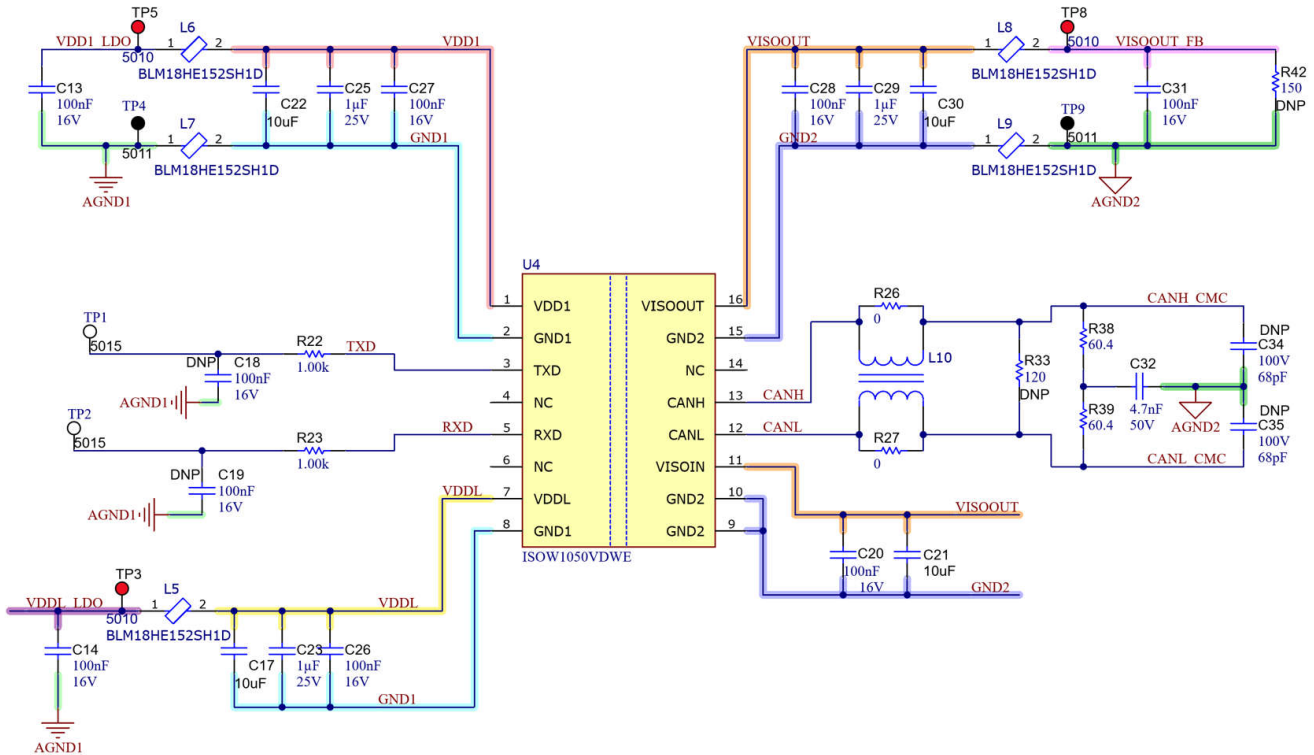
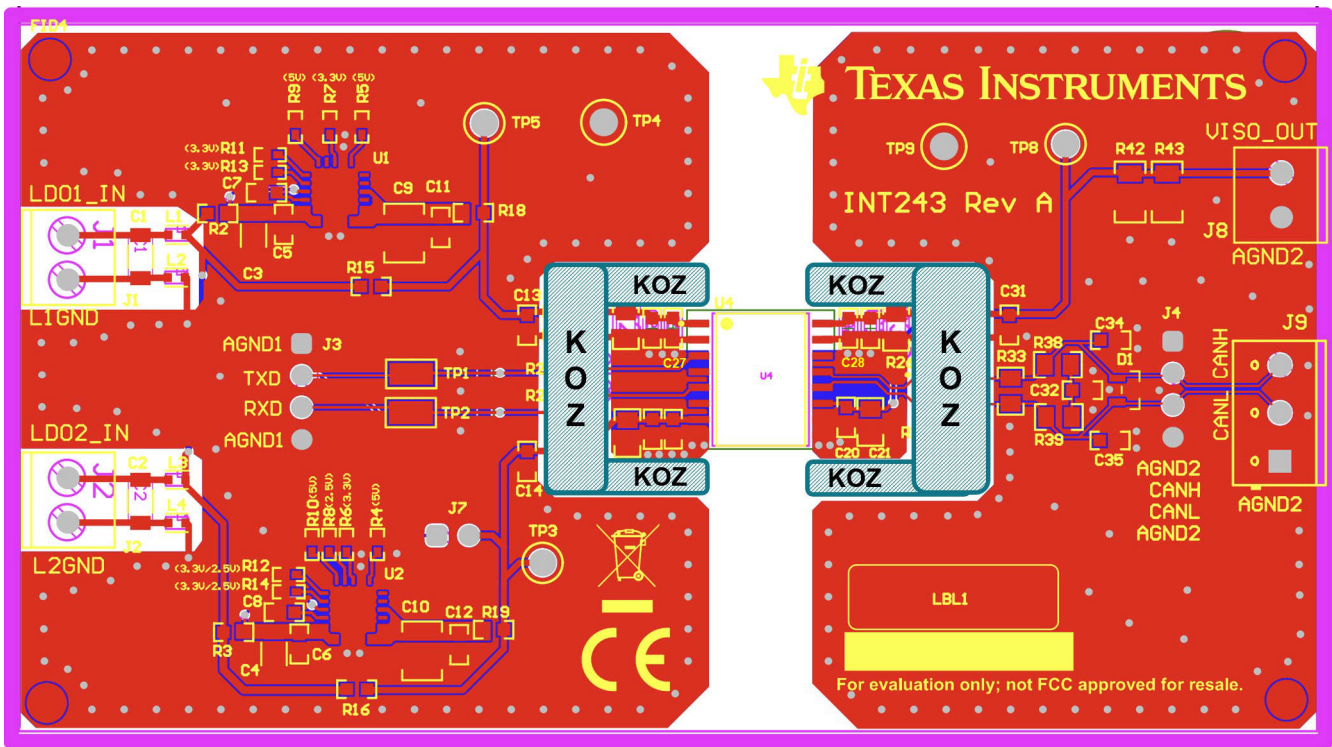

Figure 2-1. Schematic Reference From the ISOW1050DWEEVM Evaluation Module for the Mentioned Techniques
Figure 2-2. Layout Reference From the ISOW1050DWEEVM Board Showcasing KOZ
Refer to capacitance banks [(C27, C25, C22) and (C28, C29, C30)] placement in Figure 2-1. The order is crucial because each mm of PCB trace between capacitor and IC adds $\approx 1\text{nH}$ of series inductance. By placing large 10 μF capacitors closest to the IC and small 100nF capacitors farthest from the IC, this inverts the impedance profile and results in poor HF noise shunting. For applications targeting lower supply ripple, increasing the bulk capacitor from the standard 10 μF to 22 μF or 47 μF helps to improve supply ripple.
Without filtering the switching noise, the noise directly propagates into the VDD supply planes and the PCB ground planes. This action results in conducted emissions on the input terminal, and noise in the ground planes leads to radiated emissions. A ferrite bead π -filter blocks all noise above the cutoff frequency, preventing the fundamental frequency and all harmonic frequencies from reaching the main board copper planes. Use of a ferrite bead (FB) (for example, BLM18HE152SH1D, see references) is vital in minimizing radiated emissions due to common-mode current loops. FBs can be inserted between the DUT DC-DC converter and the rest of the system, as placed in Figure 2-1, thereby breaking the path of larger common-mode current loops and limiting formation of only shorter current loops. The cutoff frequency is calculated as:
Two ferrite beads per rail (one on the supply line, one on the return or GND) helps in balanced differential filtering, as shown in Figure 2-1. (L6, L7 on VDD and L8, L9 on VISO).
Ferrite beads attenuate and block formation of large common-mode current loops. While FBs separate out the device from the rest of the PCB, all the power and ground planes before and after FBs must stay separated all through the PCB. This prevents alternate common-mode current loops from forming, which are created through capacitive coupling between the planes, bypassing FBs. Even 0.1pF of parasitic capacitance between copper pours on opposite sides defeats the purpose of a ferrite bead. Figure 2-2 highlights the keep-out zones that separate the inner and outer planes with a good amount of space between them.
radiation levels. The answer to this outcome is to keep the common-mode current loop as small as possible by using common-mode chokes (CMC), which can be used for attenuating the common-mode noise. A CMC (for example, the ACT45B-101-2P-TL003, see references, and L10 in Figure 2-1) offers high impedance to common-mode currents while passing differential signals with minimal insertion loss. As a result, common mode noise from the ISOW output is blocked before reaching the cable; the differential data signal passes unaffected.
Position of the CMC is crucial—if the CMC is placed far from the connector, common mode noise gets coupled into PCB traces which defeats the purpose of the choke. For layout guidelines to follow for minimizing stray fringe capacitance between the choke terminals, refer to Figure 2-2. Refer to the ISOW1050DWEEVM evaluation module for a detailed layout.
Despite the isolated island (Section 2.4), some residual HF noise still crosses the ferrite bead region. Parasitic capacitance through the PCB substrate is unavoidable—meaning, small but non-zero. Capacitors (C13 and C31 in Figure 2-1 and Figure 2-2) are placed on the main-board GND side (after the ferrite output) to shunt this residual noise to local ground before the noise reaches the PCB ground planes. These capacitors directly improve both conducted emissions (CE) at the input terminals and radiated emissions (RE) from the PCB plane acting as an antenna. Placing capacitors on the main-board GND side also improves immunity to external conducted disturbances (radiated coupling into power input)
- Series resistor ($\approx 1\text{k}\Omega$ | R22, R23 in Figure 2-1): Slows edge rise time; reduces harmonic amplitude above signal frequency. As there is no dedicated capacitance in parallel, this option does not have any defined cutoff frequency.